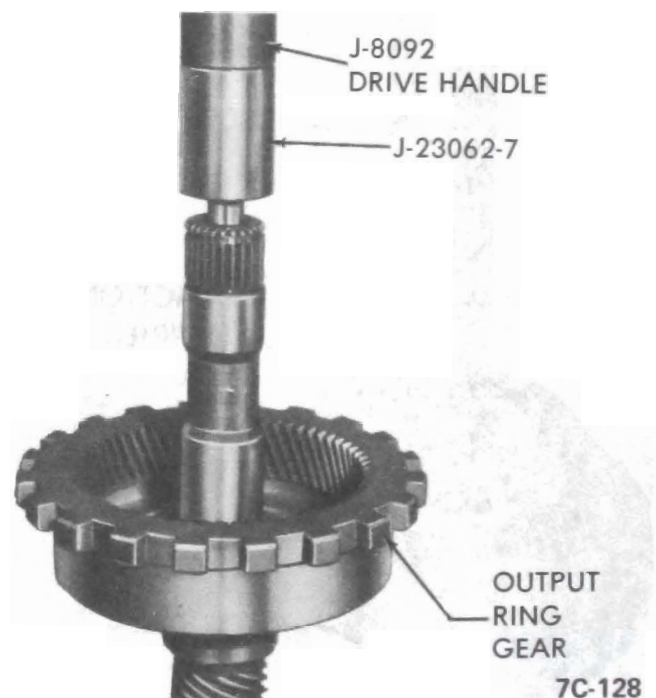

Figure 7C-128
2. Remove low and reverse clutch piston center and inner seal. See Figure 7C-133.